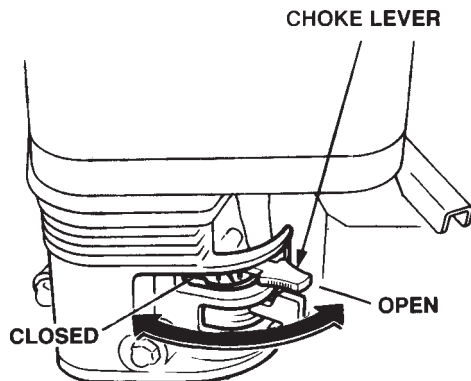

Figure 13. Choke Lever
3. Place the **Choke Lever** (Figure 13) in the "OPEN" position.
6. If the engine has started, slowly return the choke lever (Figure 13) to the **CLOSED** position. If the engine has not started repeat steps 1 through 5.